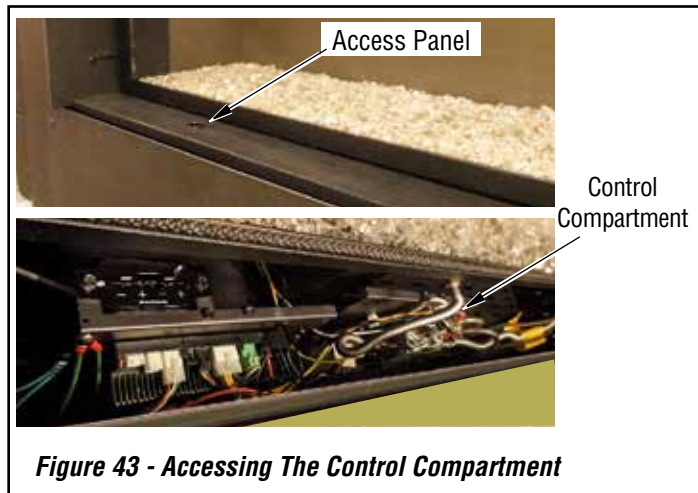

Figure 43 - Accessing The Control Compartment
- Remove the control compartment access panel (**Figure 43**).